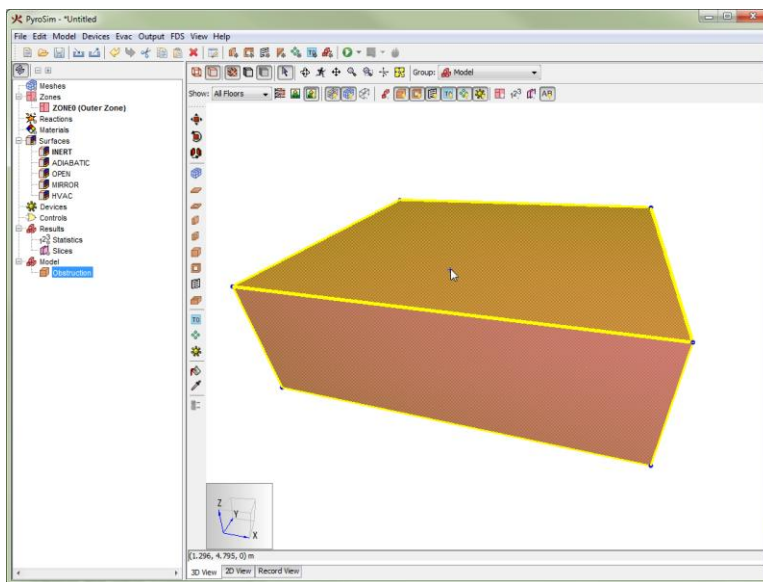

Figure 8.27. A highlighted face handle
3. Hover the cursor over the desired handle. If the handle is a dot, it will turn yellow. If the handle is a face, the entire face will turn yellow as shown in Figure 8.27.